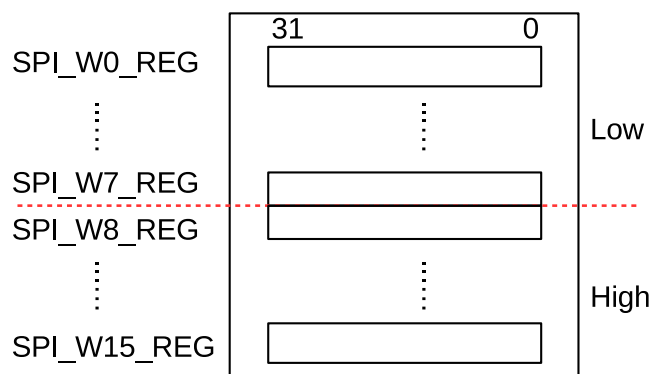

Figure 30.5-1. Data Buffer Used in CPU-Controlled Transfer
GP-SPI provides 16 x 32-bit data buffers, i.e., SPI_W0_REG ~ SPI_W15_REG, see Figure 30.5-1. CPU-controlled transfer indicates the transfer, in which the data to send is from GP-SPI data buffer and the received data is stored to GP-SPI data buffer. In such transfer, every single transaction needs to be triggered by the CPU, after its related registers are configured. For such reason, the CPU-controlled transfer is always single transfers (consisting of only one transaction). CPU-controlled transfer supports full-duplex communication and half-duplex communication.
- **SPI Buffer:** `SPI_W0_REG ~ SPI_W15_REG`, see Figure 30.5-1. The data transferred in CPU-controlled mode is prepared in this buffer.